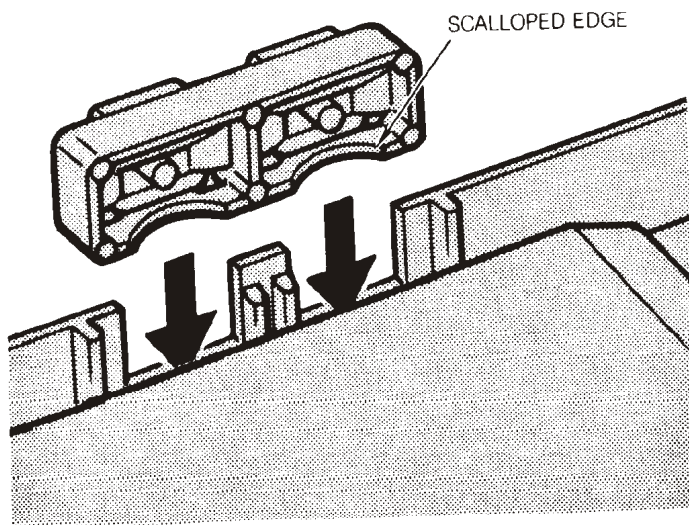

Figure 14
(6) Press action buttons firmly in position. The scalloped edge should be on the BOTTOM, FACING INWARD. The buttons will only fit one way. Refer to Figure 14 below.